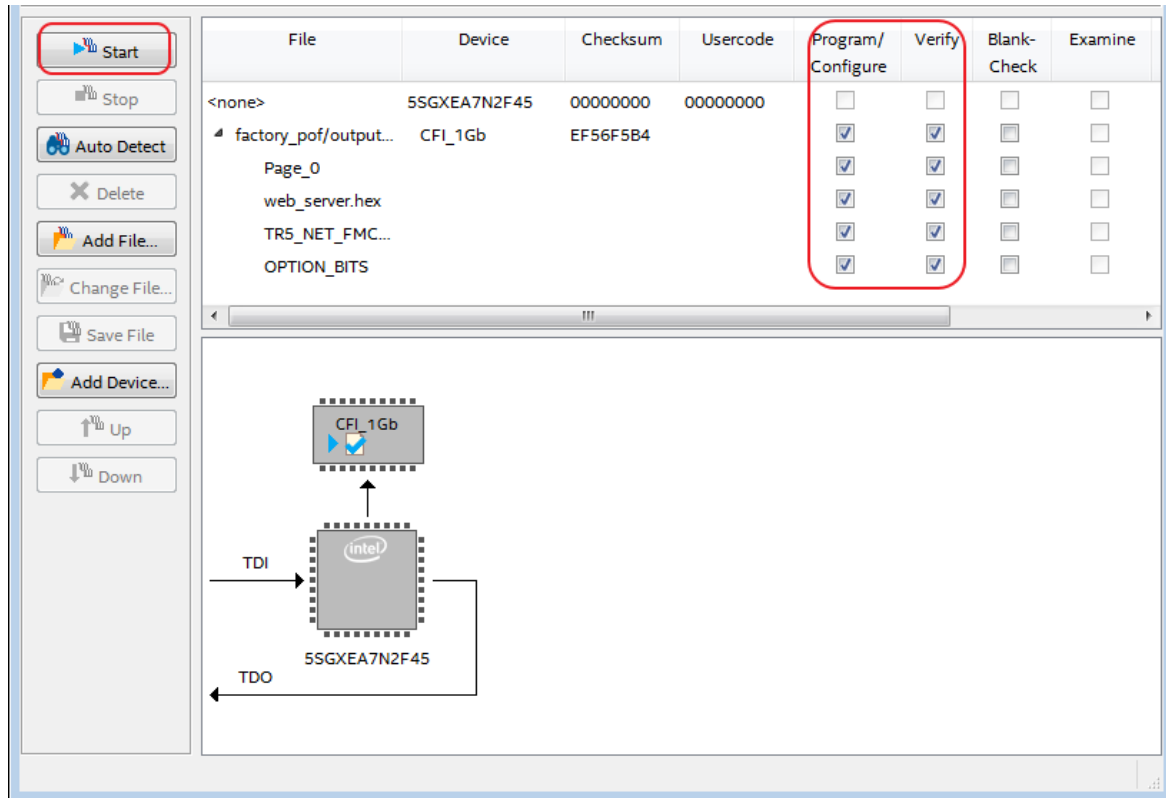

Figure 4-7 Program and Verify Options
- Check all the files Program and Verify option as in Figure 4-7 and press Start button to write the Flash.